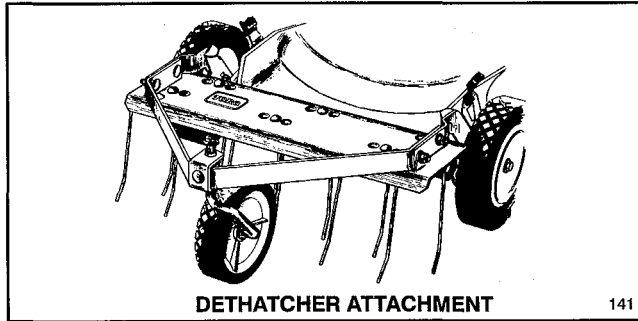

Figure 34
1. Dethatcher Kit, Model No. 59131—As spring tines on the Toro Dethatcher (Fig. 34) scratch and vibrate through the grass, thatch is loosened and cut by the mower.